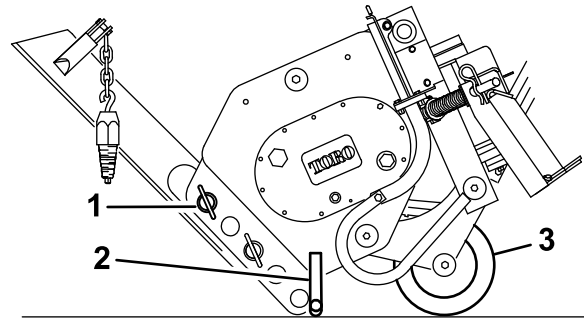

Figure 4
3. Swing the blade up and secure it using the lynch and clevis pin as shown in Figure 4.
4. Tilt the plow forward and lower it to the ground or trailer, with the stand and couler supporting the weight of the plow (Figure 4).